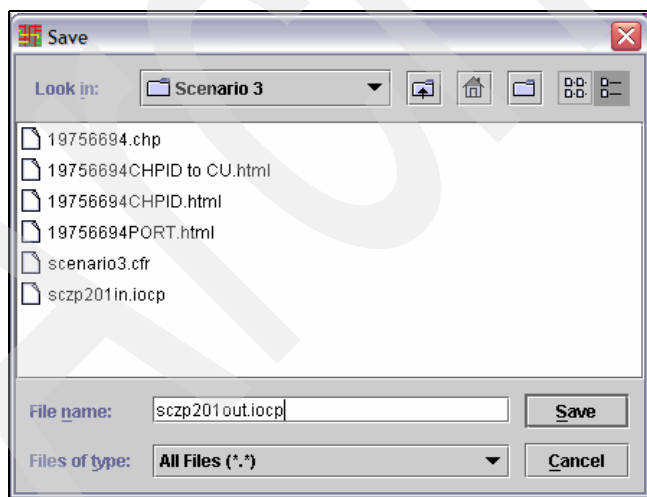

Figure 5-48 CMT - Save IOCP output file
2. Enter File name and location for the IOCP output file, then click **Save** (Figure 5-48).